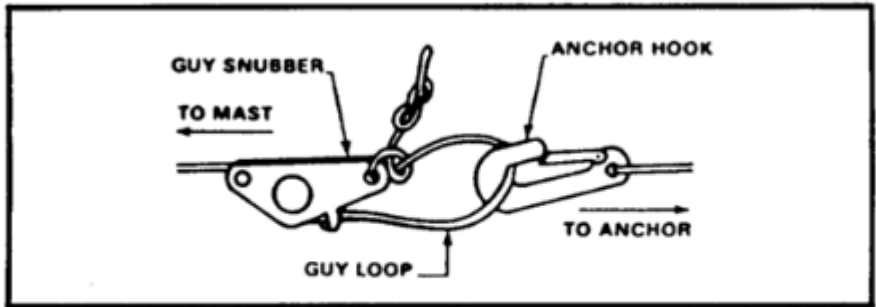

Figure 3-6. Attaching guy loops to ground anchor.
b. Extend the guy assemblies to the side and back anchor hooks and attach the guy loops (Figure 3-6).
d. Extend the upper guy assemblies to the side and back anchor hooks and attach the guy loops (Figure 3-6).
- (1) Connect the free guys to the remaining guy stake assembly (Figure 3-6) and tighten the guys.
- (2) Adjust all the guy ropes evenly. Check for vertical position by comparing the mast with a building, pole, or other vertical object.